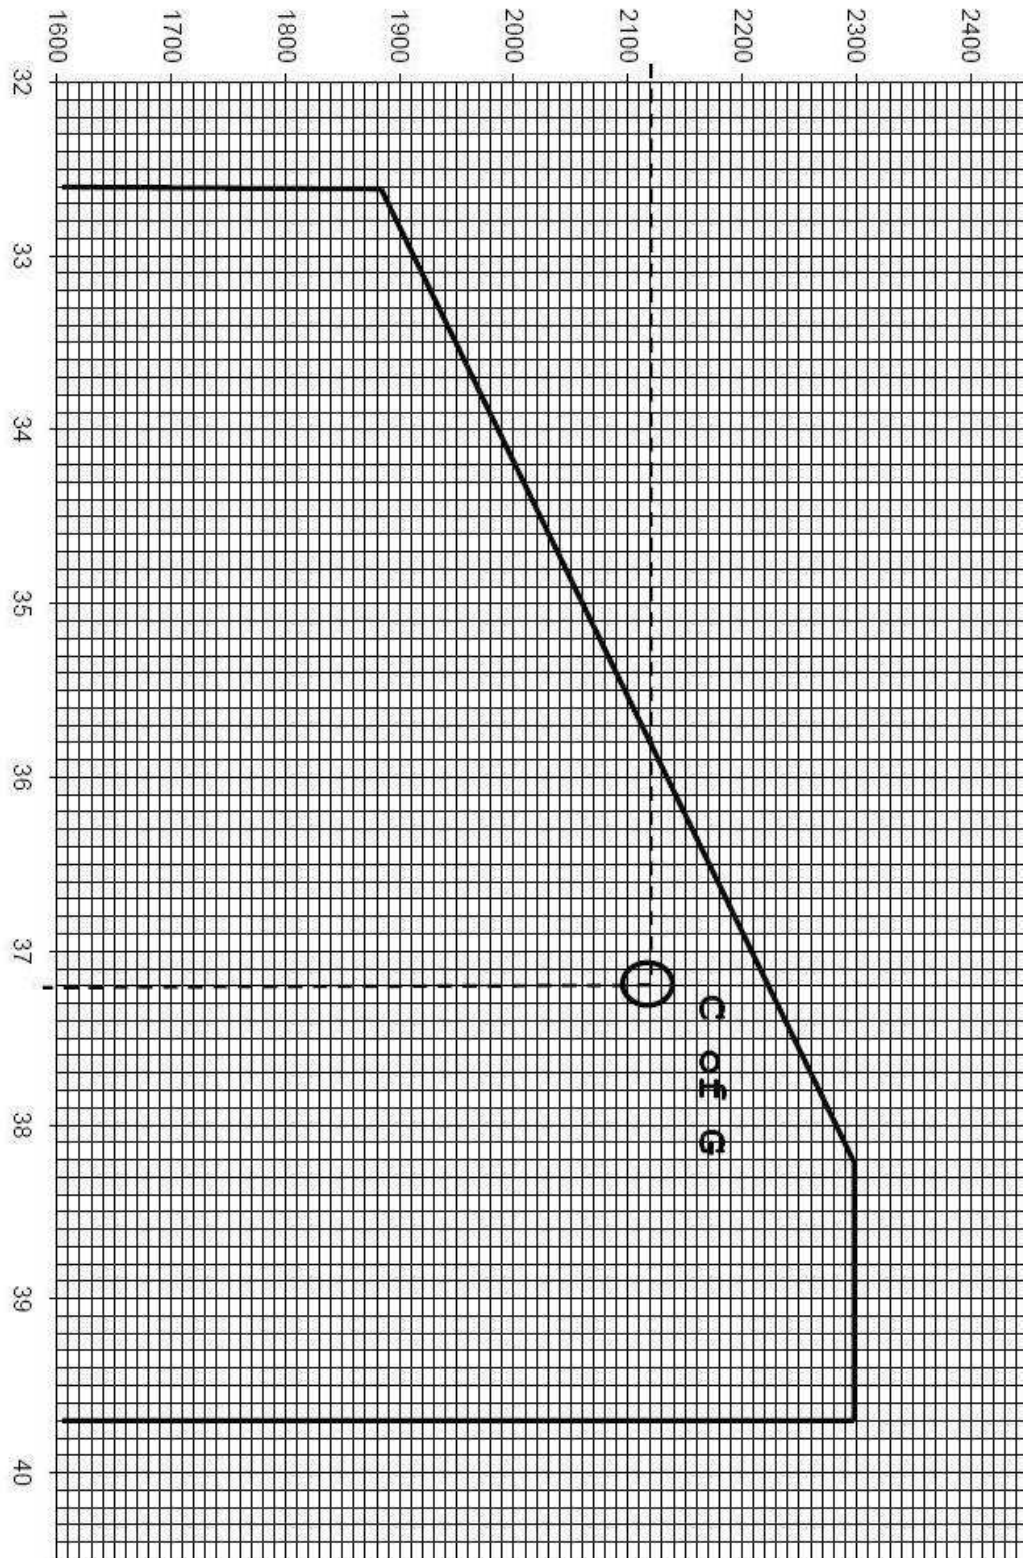

Figure 4-9 Centre of Gravity Limit Chart – L19 "A"
18. The centre of gravity limits are different for the L19 “A” Model and the L19 “C” Model, which are depicted graphically on at Figures 4-9 and 4-10 respectively.
19. The weight and balance calculation for any particular load is computed as follows, utilizing the Worksheet at Table 4-9 and Centre of Gravity Charts at Figures 4-9 and 4-10: